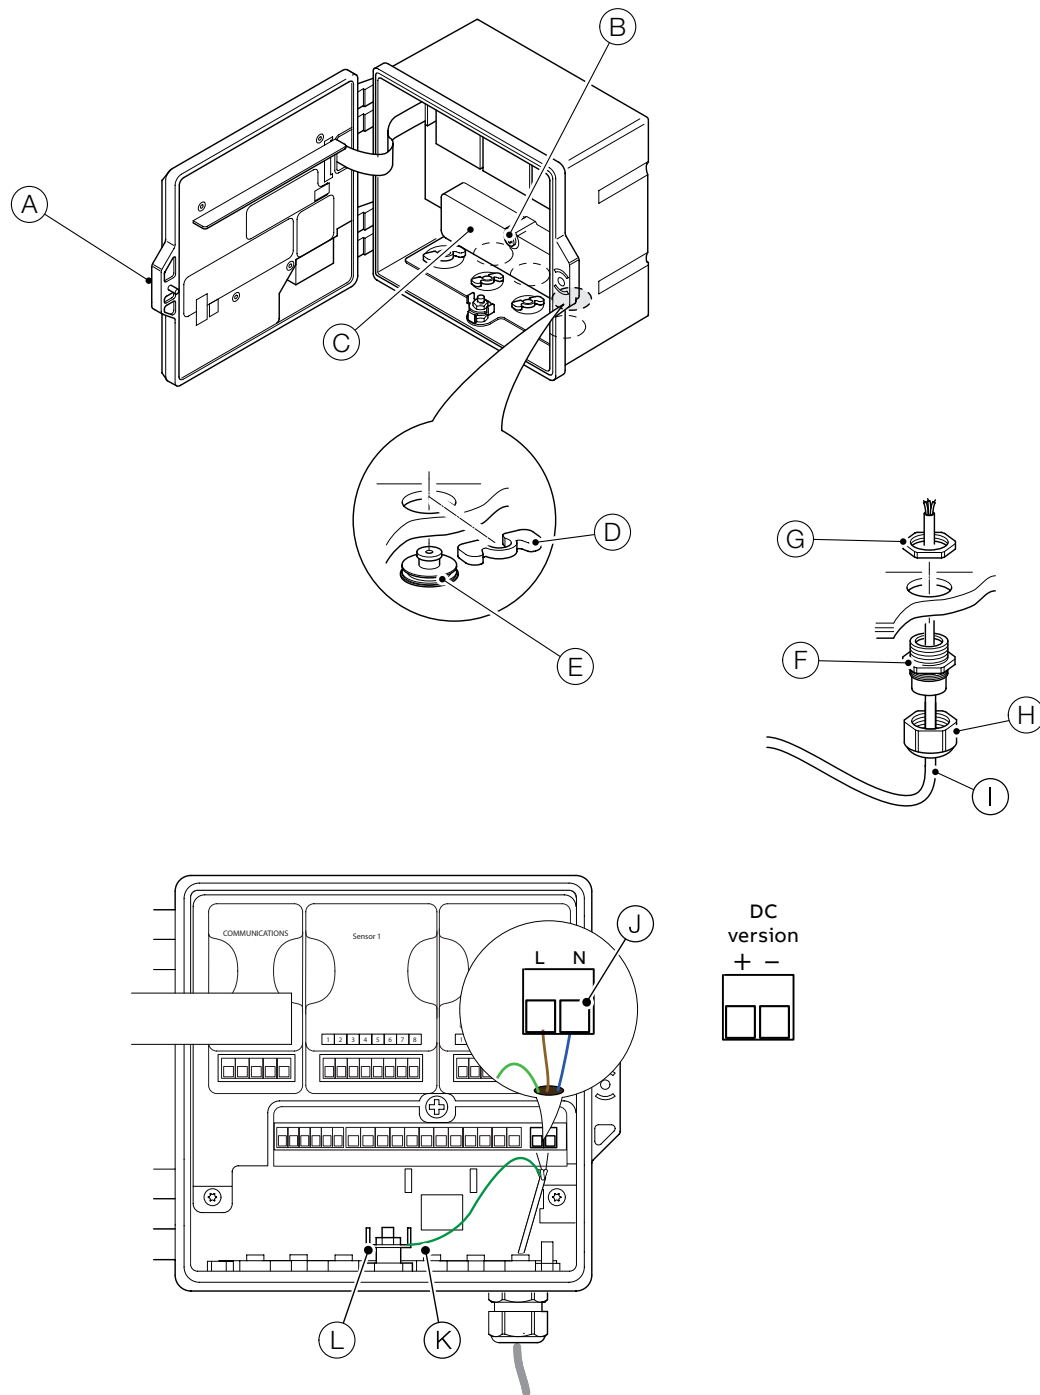

Figure 12 Connecting the transmitter power supply – plastic enclosure
- The external protective earth stud (see Figure 12, page 17) must be connected to the local earth bonding point using suitably sized ground cable. To connect to the protective earth stud, use a closed M4 cable lug.
Referring to Figure 12, page 17: